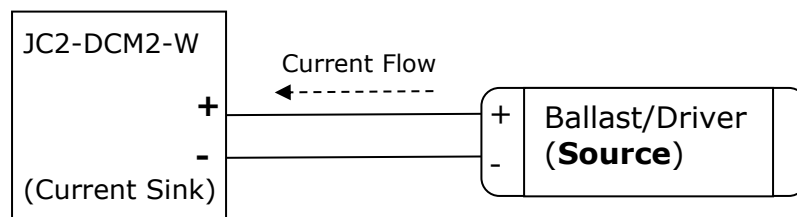

Fig. 4 "Source" – control DC voltage supply provided by Driver side
- The JC2-DCM2-W dimmer supports dimming ballast standard, that is, current sink control (see Fig. 4 below) and is not compatible with LED driver that requires current source control.